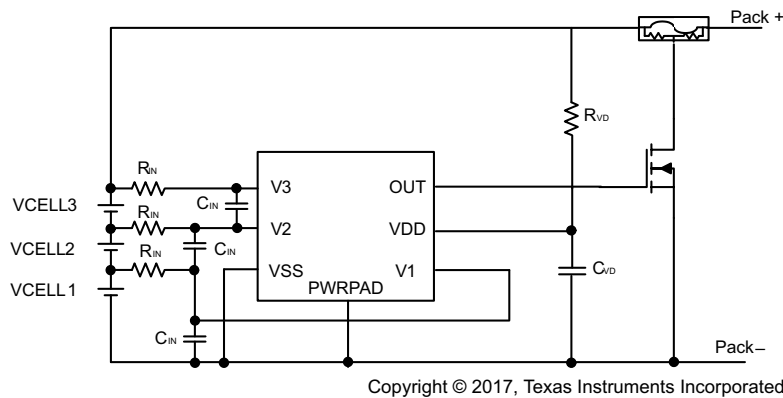

Figure 9-1. Application Configuration Schematic
Changes to the ranges stated in Table 9-1 impact the accuracy of the cell measurements. Figure 9-1 shows each external component.
3. To connect to the device, follow the application configuration schematic (see Figure 9-1).